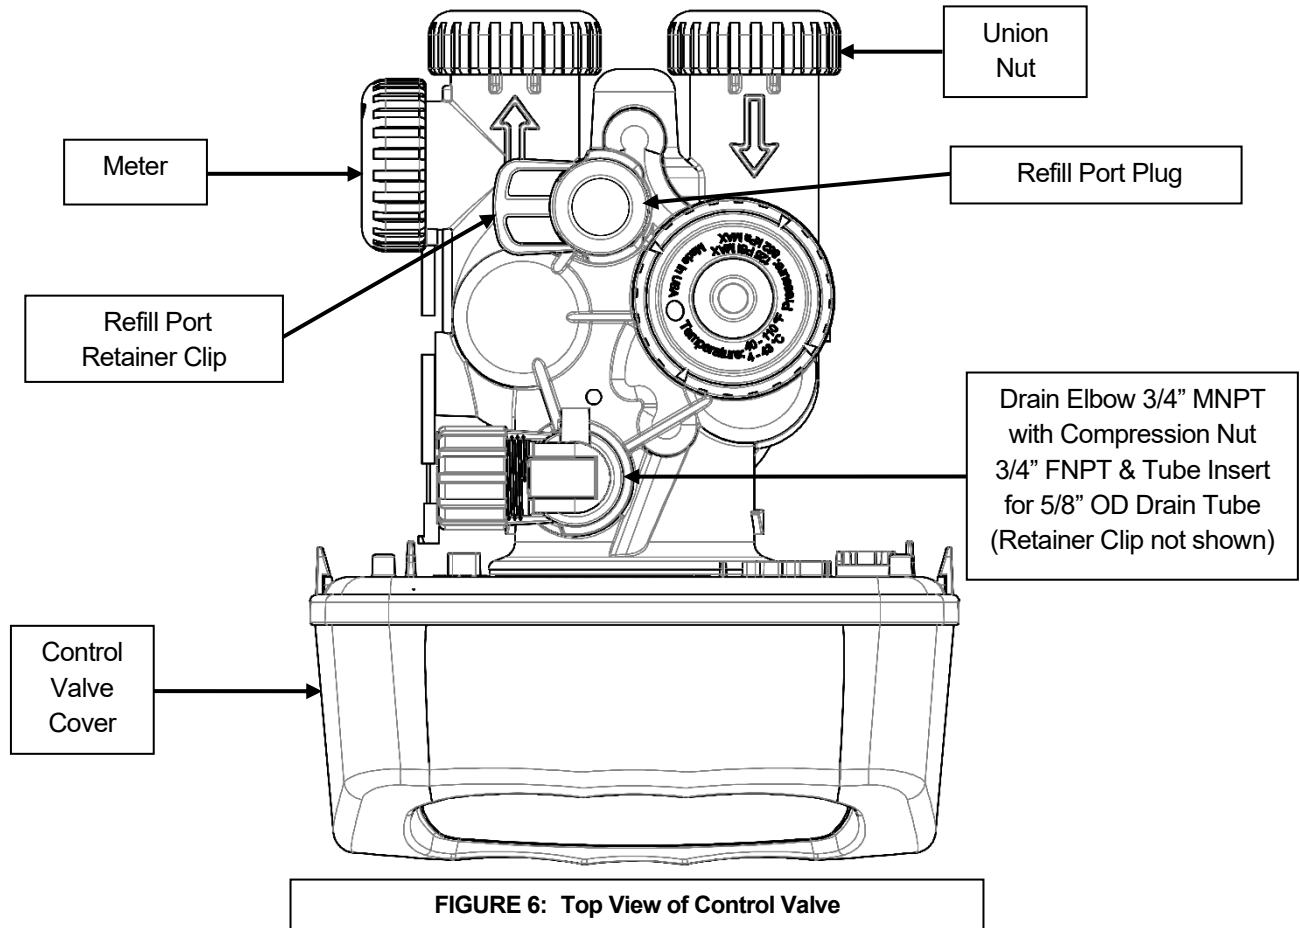

FIGURE 6: Top View of Control Valve
- STEP 8:** **Apply thread tape to DLFC Assembly.** Remove drain line flow control (DLFC) retainer clip (Figure 6, Page 7) and remove the DLFC assembly from the valve body, (Figure 6, Page 7). Apply thread tape to threads. Slide drain fitting compression nut onto provided drain tubing and place the tube insert inside the end of the tubing. Insert tubing end with insert into drain elbow and tighten the compression nut onto the thread taped elbow. Reinsert DLFC assembly into the valve body, making certain it is **FULLY** inserted before replacing the retaining clip.
- STEP 9:** **Install drain line.** Use the provided ½" I.D. polyethylene tubing (**DO NOT USE FLEXIBLE VINYL TUBING!**) to run drain line from control valve DLFC fitting (Figure 6, Page 7) to floor drain or sump pit capable of handling the backwash rate of the filter (refer to specifications and flow rate on page 16) or discard the compression fitting and use ¾" NPT fitting to connect a rigid pipe drain line (recommended). If backwash flow rate is greater than 7.5 gpm, use ¾" FNPT connector with rigid drain line. There must be an air gap at the end of the drain line to prevent siphoning of wastewater. Length of drain line should be 15' or less. **AVOID OVERHEAD DRAINS.**
- 12) Reattach Drain Line to Control Valve (Figure 6, Page 7).